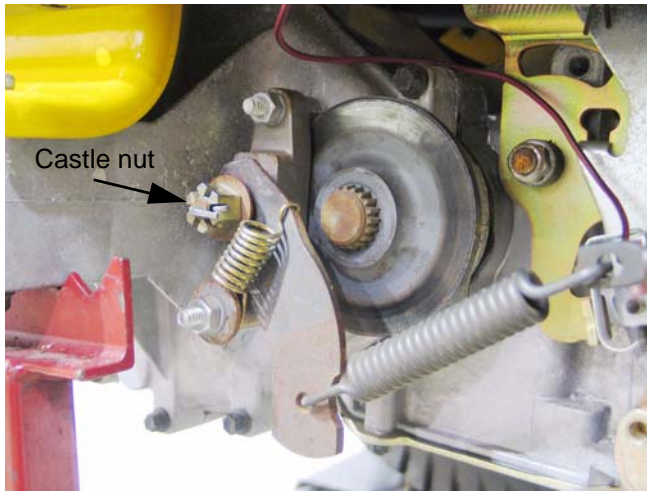

Figure 32.8
- 32.8. Hydro-Gear transaxles use a castle nut locked with a cotter pin. See Figure 32.8.